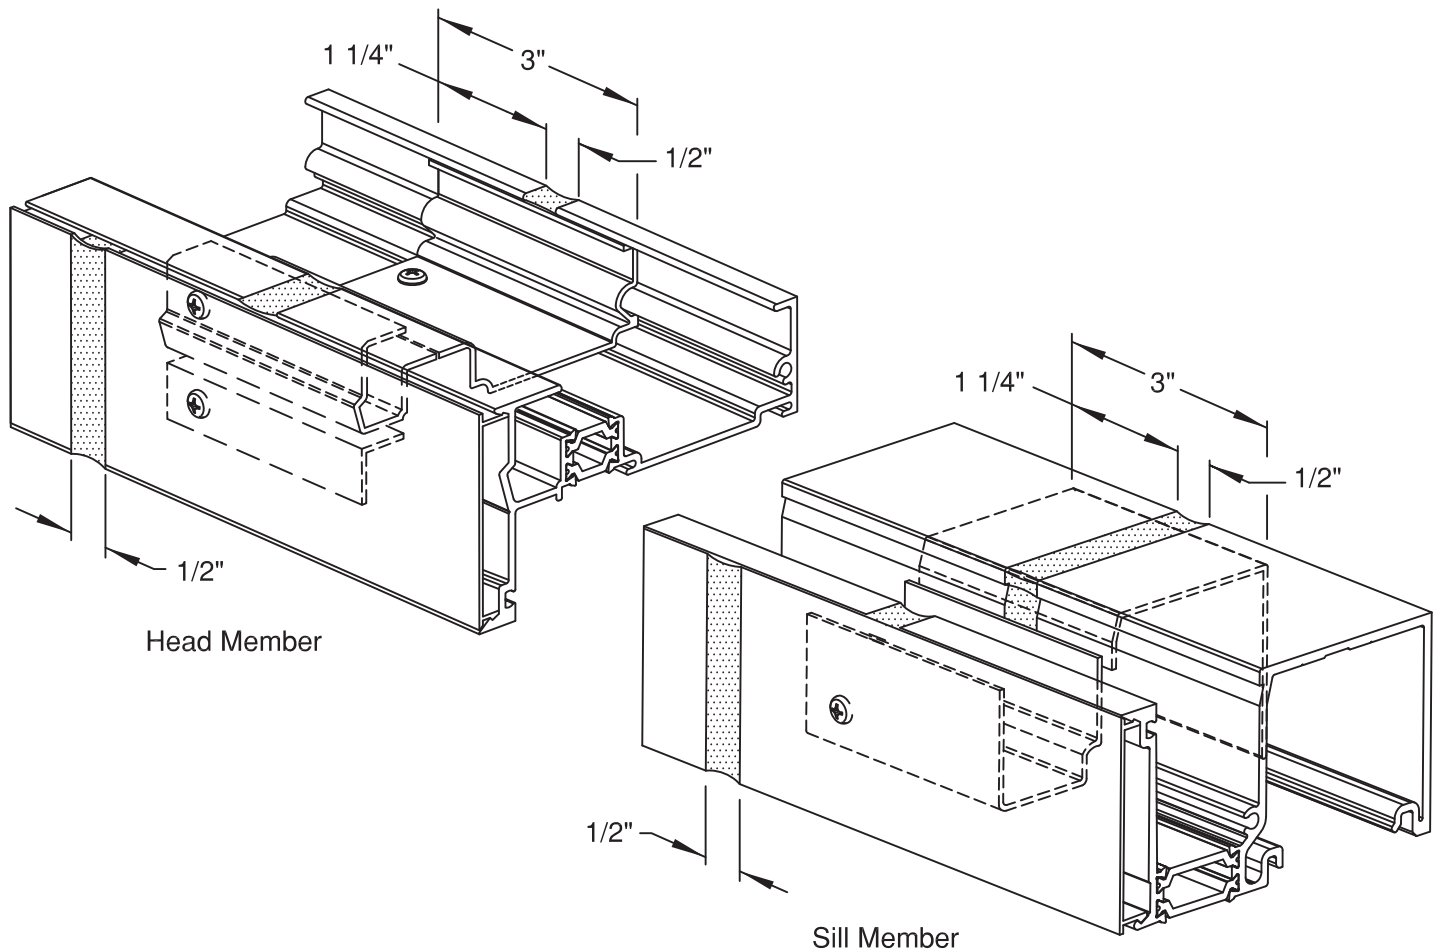

Figure 18
A.2 Place splice sleeves in head and sill of first frame section. Pin in place with FS-114 #8 x $\frac{3}{8}$ " Phillips pan head screw (seal head). **SEE FIGURE 18.** Slide the next frame section over the splice sleeves to achieve a $\frac{1}{2}$ " joint.